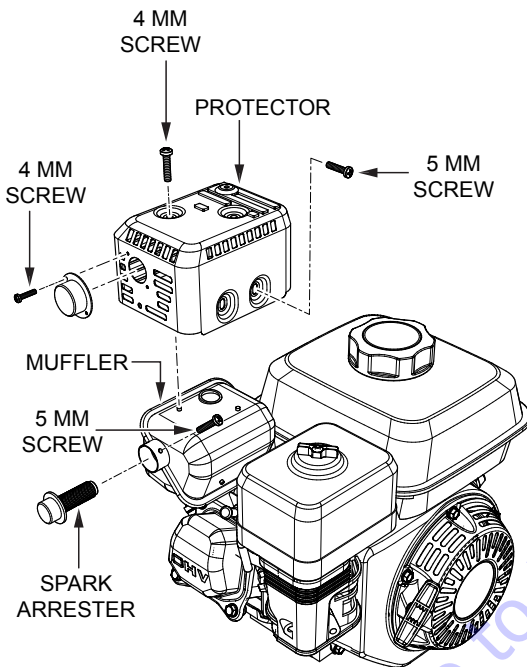

Figure 29. Spark Arrester Removal
1. Remove the 4 mm screw (3) from the exhaust deflector, then remove the deflector. See Figure 29.
2. Remove the 5 mm screw (4) from the muffler protector, then remove the muffler protector.